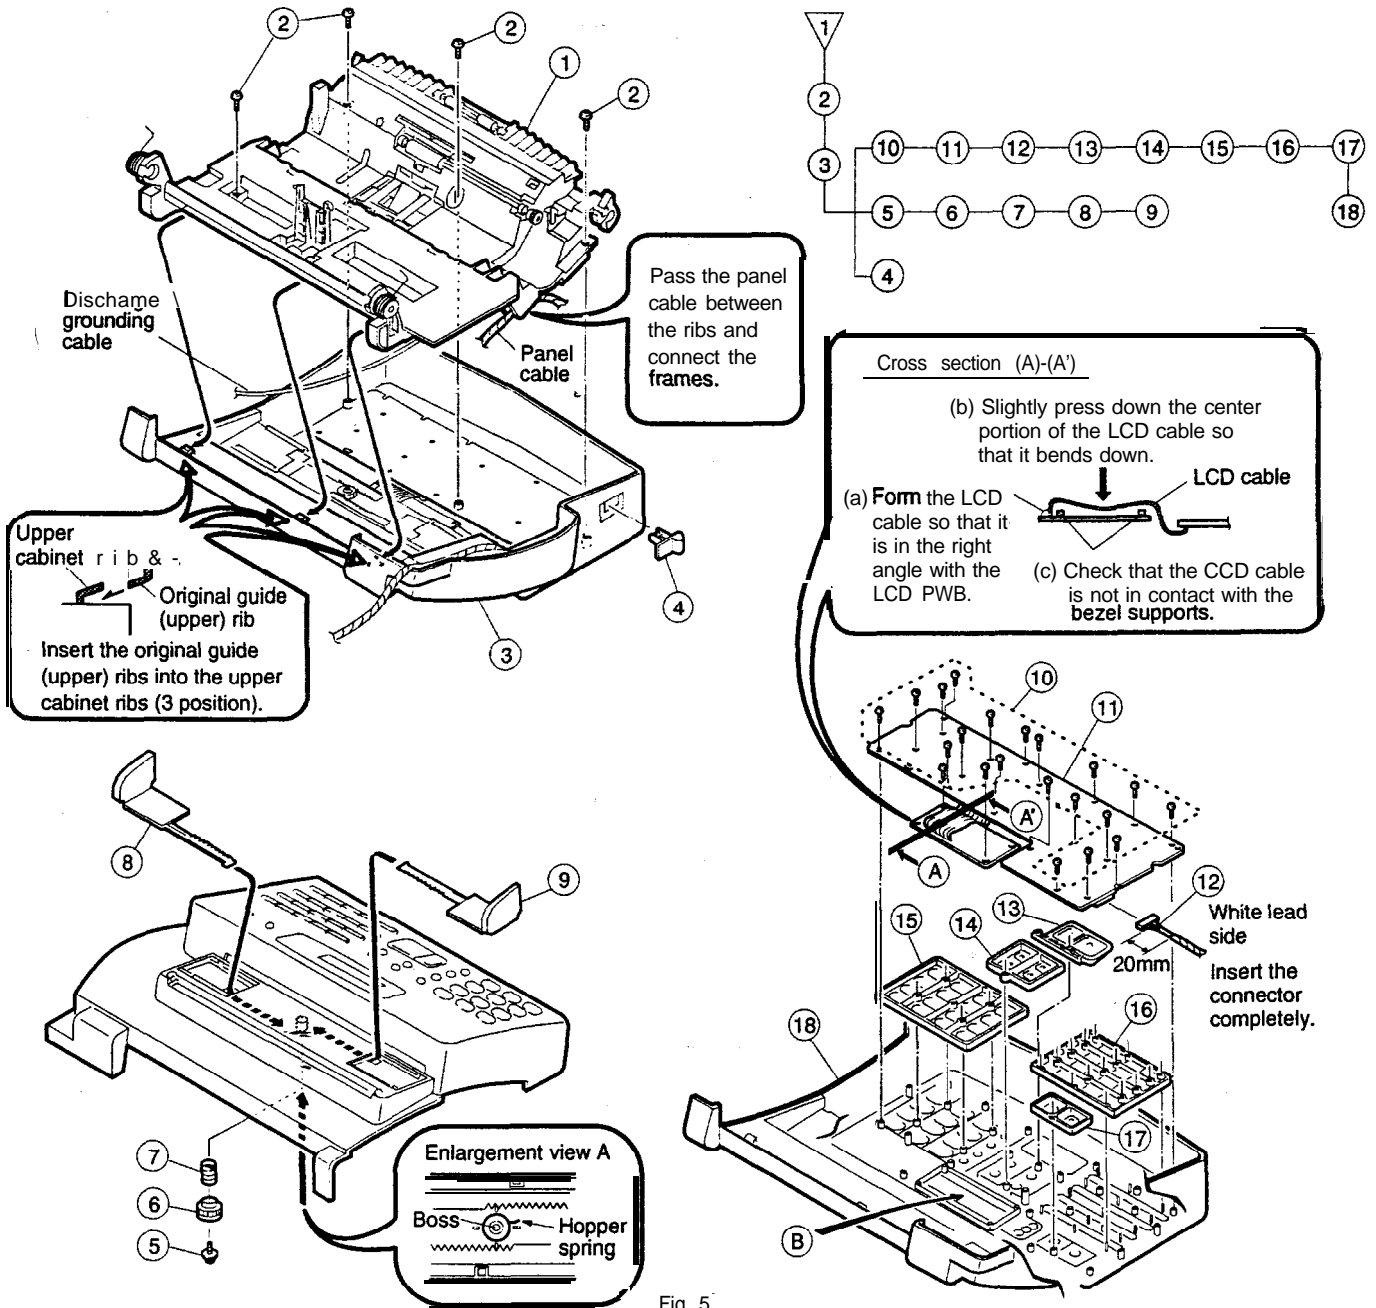

Fig. 5
Parts list (Fig. 5)
1. When connecting panel cable ⑫, insert the white cable as shown in Fig. 5.
2. When attaching panel PWB ⑪, note the following points:
- Check that the LCD installing section ② in Fig. 5) of upper cabinet ⑬ and the glass surface of the LCD are free from dirt.
- When tightening screws ⑩, be sure to tighten  and  first.
3. For attaching direction of hopper spring ⑦, refer to the enlarged view.
4. When attaching upper cabinet section ③ to the upper frame ass'y, put the upper frame ass'y rib under the upper cabinet rib. (Refer to the enlarged view.)
5. For wiring of the panel cable, refer to the note in Fig. 5.